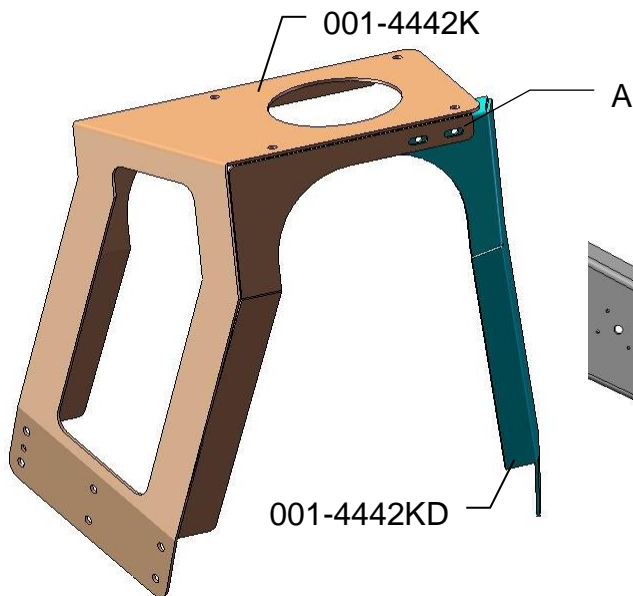

Figure 1
Locate tank saddle legs (001-4442K & 001-4442D) as shown in figure 1. Fasten leg 001-4442D to 001-4442K with two 3/8 x 1 1/4" bolts, locks, flats, and nuts at point A.
2. If your baler is not equipped with bale shaping pads you will need to drill a hole in the chamber directly behind and above the starting roll (Figure 1).
3. The mounting hole will be 3/4" in diameter. Use a plastic pad (006-4641F) and place it into the baler to use as a template. The bottom edge of the pad will be placed 1" up from starting roll and 2" from the back of the bale chamber. (Figure 1)